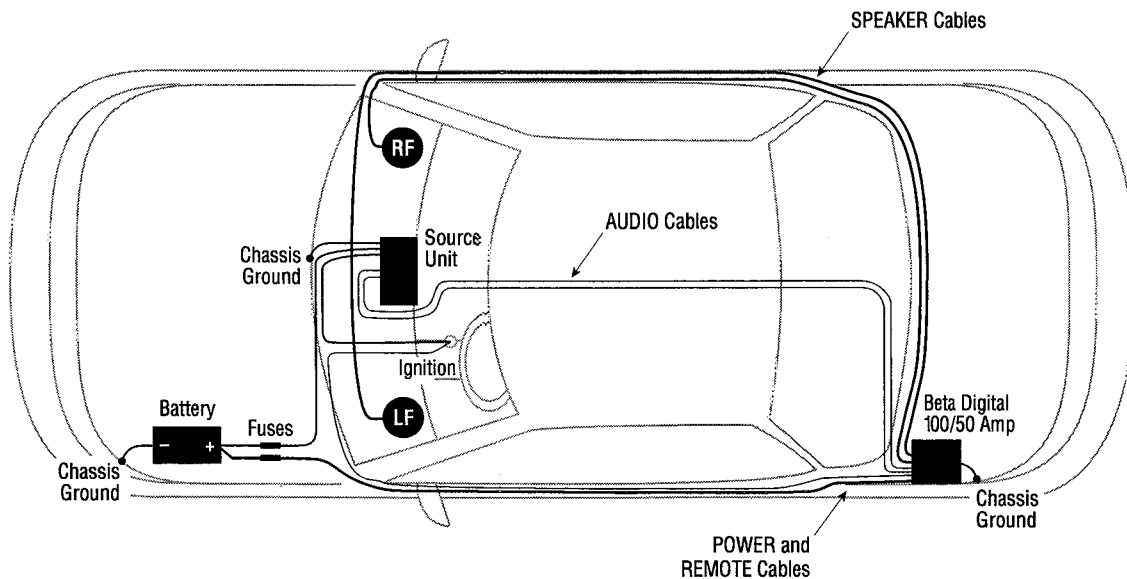

Figure 7. To minimize possible noise pickup, use this suggested cable routing scheme to plan your amplifier installation.
- When routing cables, keep input signal cables away from power cables and output speaker wires, as shown in Figure 7 (below).